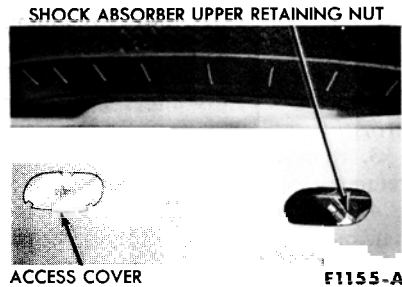

FIG. 17—Rear Shock Absorber Upper Mounting
remove the shock absorber access cover from the floor pan. Remove the nut, outer washer, and rubber bushing that retain the shock absorber to the upper mounting in the floor pan (Fig. 17).
4. From the luggage compartment, install the bushing washer and retaining nut to the upper mounting stud (Fig. 17). Torque to specifica-